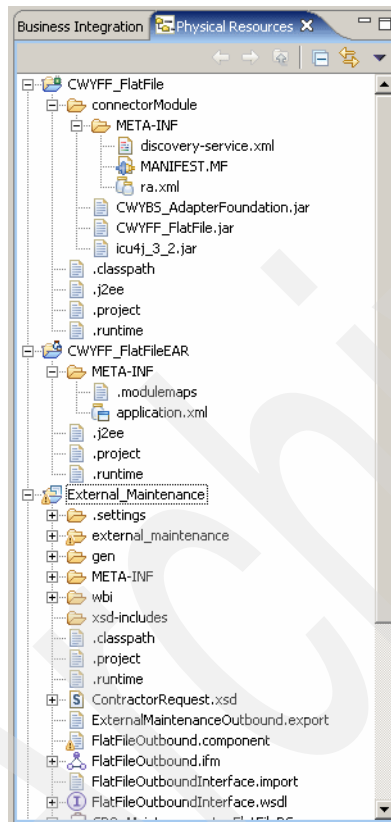

Figure 2-43 Connector module
3. Select **Connector Properties** → **CWYFF\_FlatFile** → **connectorModule** (Figure 2-43).